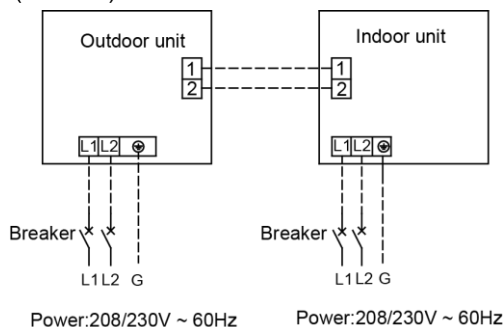

Fig. 4.29
- ①. The power cord and the wire of the fresh air valve are high-voltage, while the communication cord and connection wire of the wired controller are low-voltage. They should run separately against electromagnetic interference.
- ②. The high-voltage and low-voltage lines should pass through the rubber rings at different electric box covers.
- ③. Do not bundle the connection wire of the wired controller and the communication cord together, or arrange them in parallel, otherwise improper operation would occur.
- ④. The high-voltage and low-voltage lines should be fixed separately and securely, with internal big clamps for the former and small clamps for the latter.
- ⑤. Tighten the indoor/outdoor connection cord and power cord respectively on the terminal boards with screws. Faulty connection may cause a fire.
- ⑥. If the indoor unit connection cord (to the outdoor unit) and power supply are wired incorrectly, the air conditioner may be damaged.
- ⑦. Connect the indoor unit connection cord properly based on the corresponding marks as shown in Fig. 4.29.
- ⑧. Ground both the indoor and outdoor units by attaching a ground wire.
- ⑨. Unit shall be grounded in compliance with the applicable local and national codes.